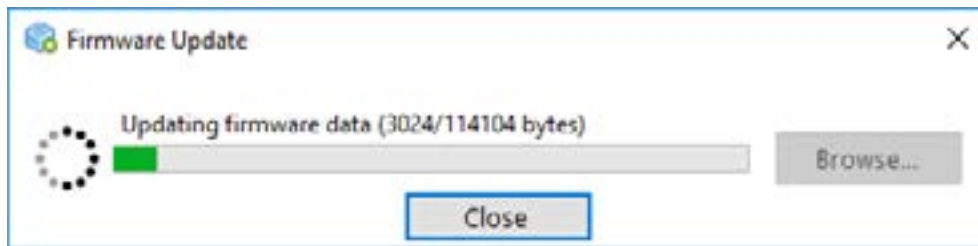

Figure 3.34 Firmware update – Updating process
4. Updating takes approximately one to two minutes (Fig. 3.34).